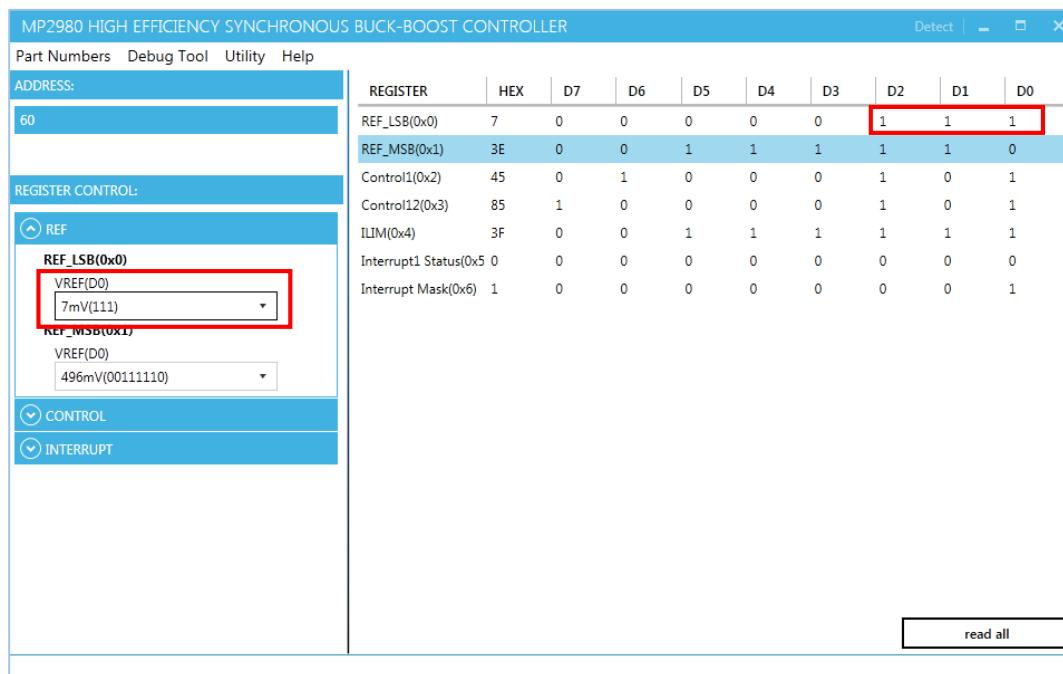

Figure 11: Refer to Datasheet to Translate
4. Find the item you want to change, then select the desired value from the drop-down menu. The changed information of the item will appear on the right side (see Figure 11).